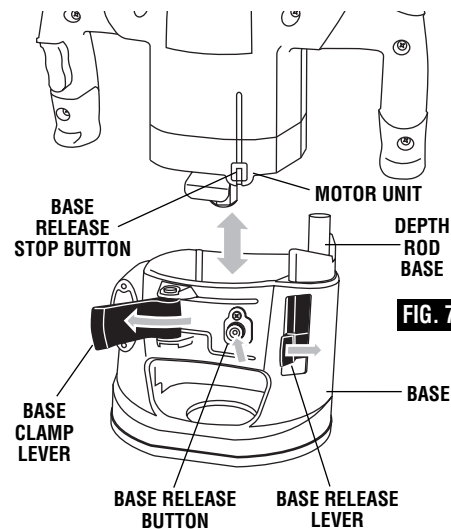

FIG. 7
1. Hold router in vertical position, open base clamp lever, push base release lever in direction of arrow and pull motor unit upwards from base, just before the motor is completely out of the base it will stop moving. Then depress the base release button, and pull motor unit upwards from base (Fig. 7).
3. Slide motor into base until the base release lever engages into the slot on the motor unit (Fig. 7).